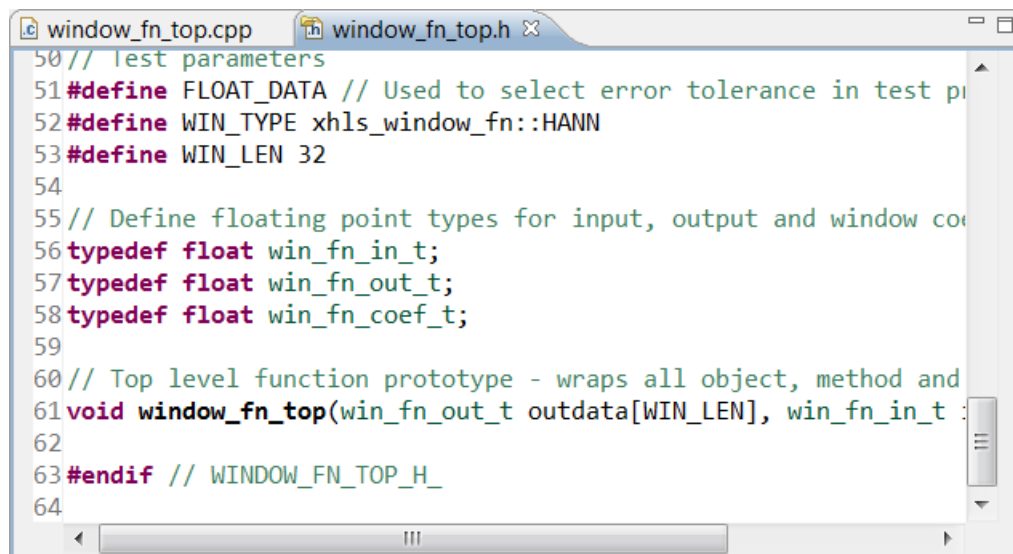

Figure 95: Type Definitions for C Validation Lab 3
3. Scroll down to view the type definitions (Figure 95).